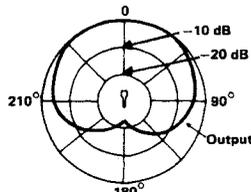
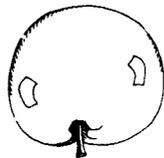

FIGURE 7—Cardioid Polar Pattern
FIGURE 8—Cardioid Pickup Pattern
**Unidirectional Pickup Pattern.** The most common unidirectional microphone is called a cardioid. Cardioid is a mathematically descriptive term that denotes the geometric form of the pickup pattern. The pattern happens to be crudely heartshaped (hence the term "cardioid"). Side pickup is moderately reduced in a cardioid microphone and rear pickup is dramatically reduced. The polar pattern of a cardioid microphone is shown in Figure 7. The apple shown in Figure 8 would be a good three-dimensional model of the cardioid pattern with the stem representing the microphone.